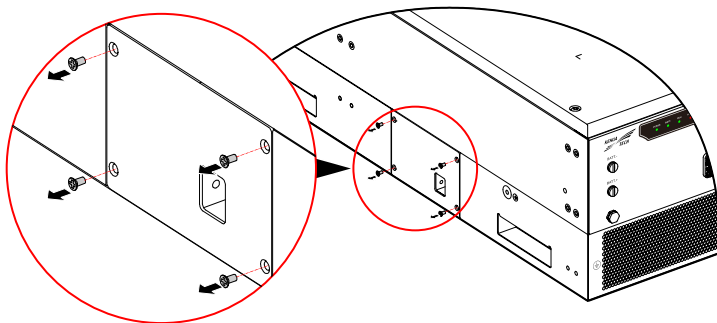

Figure7-20 Dismantle the screws of fan cover
Step 5 Dismantle the screws of the fan module, as shown in Figure7-20.